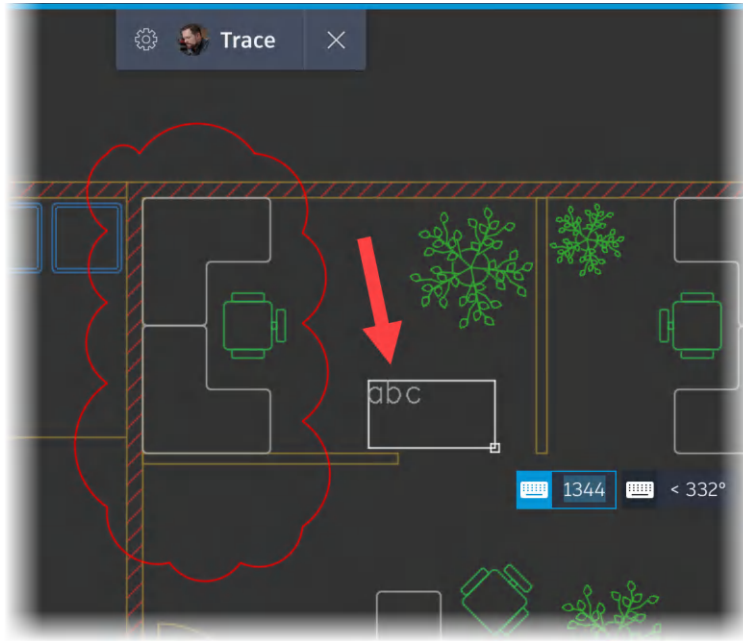

Figure 16.17: The MText area being specified on the screen
8. Click next to the revision cloud to locate the **MText** position in the trace. You will then be prompted for the area the text annotation will occupy, as shown in *Figure 16.17*.